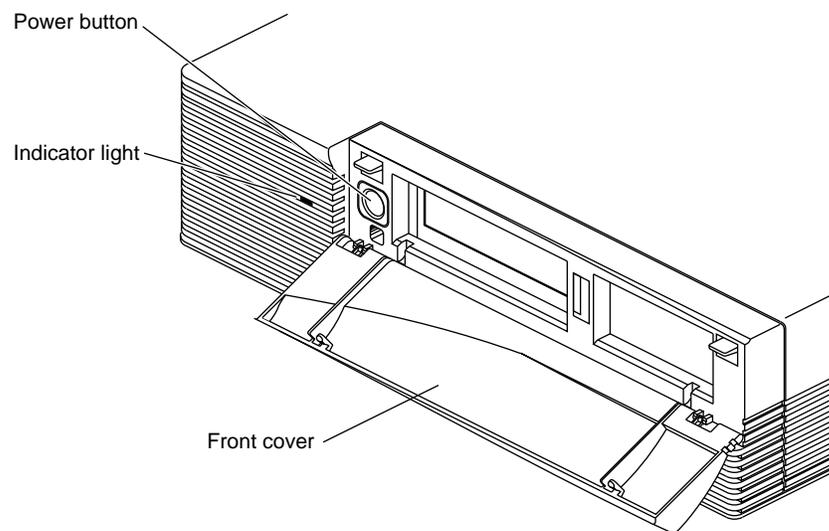

Figure 1-4 Turning Off the Power
- Snap the front cover away from the top edge of the chassis and tip it down, as shown in Figure 1-4.